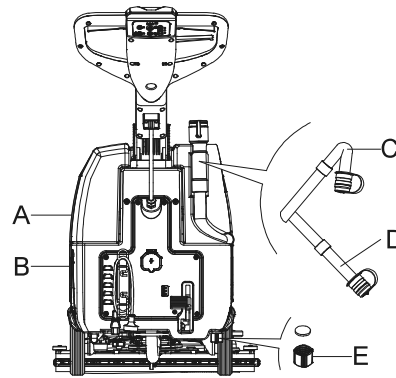

Figure 11
**When draining the wastewater, the vacuum tube for waste must be folded (C, Figure 11) and lowered to a lower position (D, Figure 11), and then open the lid of the vacuum tube for waste to drain the water. Do not make the outlet of the vacuum tube for waste face upward to drain the water vertically. This is to avoid wastewater spilling onto the operator.**
8. Empty the solution tank with the outlet cover (E, Figure 11). After working, rinse the tank with clean water.
2. Empty the tanks (A and B, Figure 11) as shown in the previous paragraph.